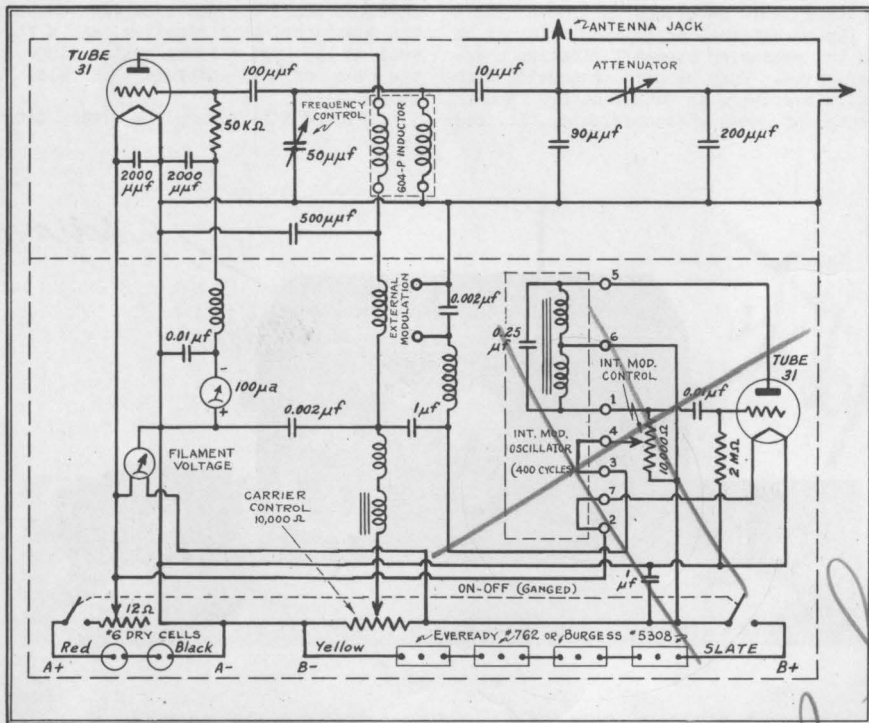

FIGURE 2. Wiring Diagram for Type 604-B Test-Signal Generator
Figure 2 is a complete wiring diagram.
**INSTALLATION OF BATTERIES** The four block batteries are placed at the left-hand side of the battery compartment and the two dry cells at the right-hand side. Connections are to be made as indicated in the wiring diagram of Figure 2. Before making connections to the B+ terminal (the slate lead) see instructions on page 4.